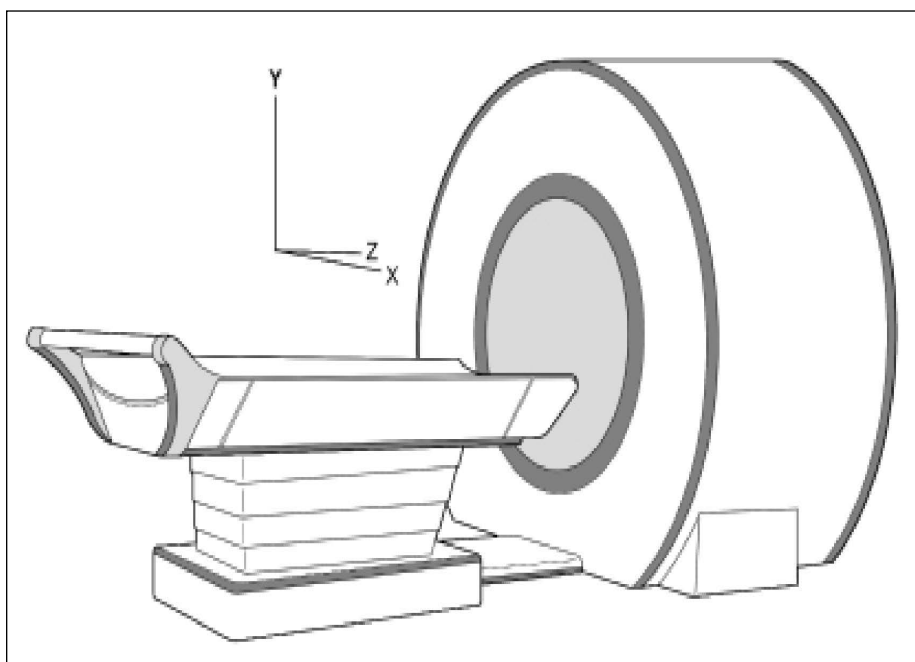

Fig. 52
1. Verify the cradle can travel the full length of the “Z” axis without issue. Repeat for both mechanical and manual movement (Fig. 52).
3. Verify the cradle can travel the full height of the ‘Y’ axis without issue (Fig. 52).